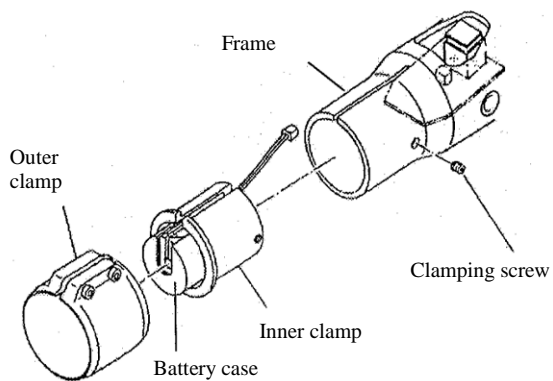

Fig. 8 : Removing the clamp
3. Remove the outer clamp off the frame, then the fastening screw, then pull out the inner clamp together with the battery case (Fig. 8).
7. Set the inner clamp in the frame. Check that the battery connector is on the front face of the circuit board (Fig. 8).